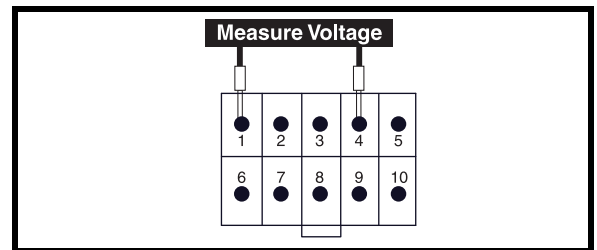
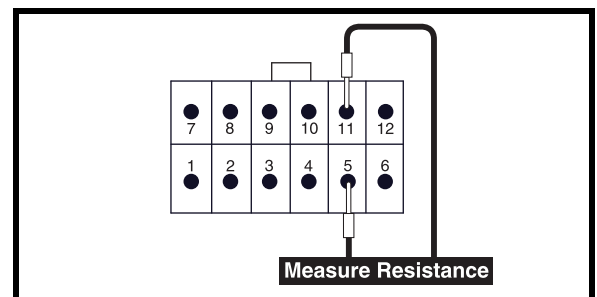

Figure 17. Connector 10g
Figure 18. Connector 11a
20. Measure voltage across pin 1 and pin 4 of connector 10g. **See figure 17.**
- If your multimeter indicates greater than 18VDC, then replace the console (16) and retest the system.
22. Measure resistance across pin 5 and pin 11 of connector 11a. **See figure 18.**
- If your multimeter indicates less than 1 ohm, then replace the tiller harness (10) and retest the system.
- If your multimeter indicates greater than 1 ohm, then replace the tiller fuse block (11) and retest the system.